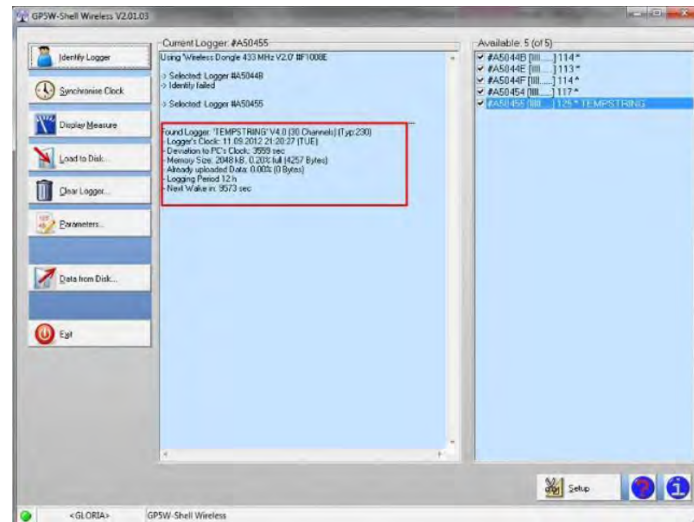

Figure 36: In the red box on the left, battery status, memory status and logger time.
2. Once you have clicked "identify logger" it will attempt to connect, once connected it will give the current logger status such as seen below in Fig. 36.